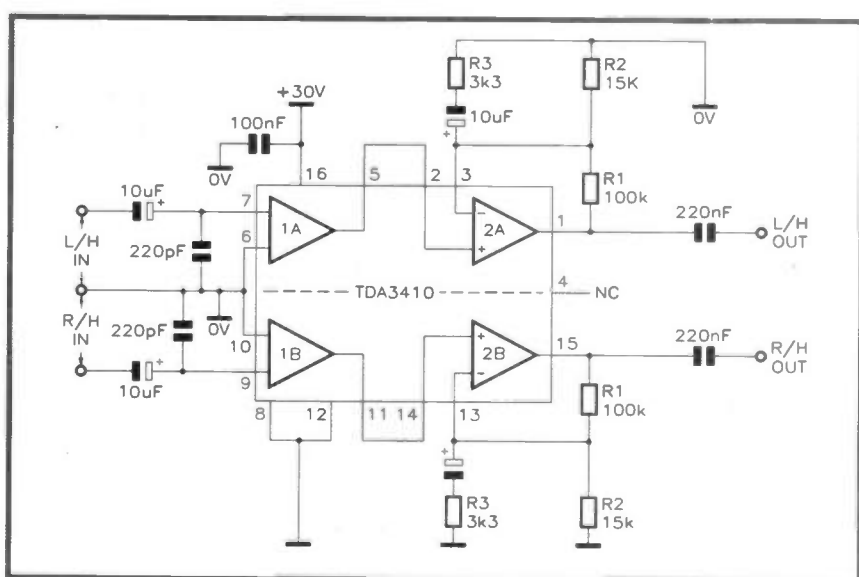

Figure 29. TDA3410 stereo preamp circuit with an overall voltage gain of 60dB (= x 1,000).
another popular dual preamplifier, the TDA3410, which is an ultra low noise device that generates very little distortion and can operate from any single-ended supply voltage in the range 8 to 30V. Figure 29 shows a practical application circuit for this IC.
30dB (= 32 times), and at any given moment can accept one or other of two pairs of stereo input signals, which are applied to pins 7(9) and 6(10); the desired input signal can be selected by applying a suitable control voltage to the input switch pin 12 of the IC. When this pin is grounded (as in Figure 29), internal analogue switches clamp pin 6(10) to ground and pin 7(9) is enabled; if pin 12 is
The two input terminals of the first amplifier each have an input impedance of about 80kΩ. This amplifier stage can provide maximum undistorted output signal swings of about 2V Pk-to-Pk, and should not, therefore, be driven by inputs greater than 63mV Pk-to-Pk. The output pin 5(11) of the first amplifier can be wired directly to the input pin 2(14) of the second amplifier, if desired, as shown in Figure 29.
The second amplifier can be used like a normal op amp, as shown in Figure 29, where its DC voltage gain (bias) is set via
In the example shown, the AC gain is set at about 30dB, and under this condition the amplifier's power bandwidth exceeds 22kHz. This amplifier can provide maximum undistorted (THD less than 0.05%) output signals of about 6V Pk-to-Pk. Thus, in the application circuit of Figure 29, the IC gives an overall voltage gain of about 60dB (= 1,000 times), and hence a 1V Pk-to-Pk output from a 1mV Pk-to-Pk input. Under this condition the